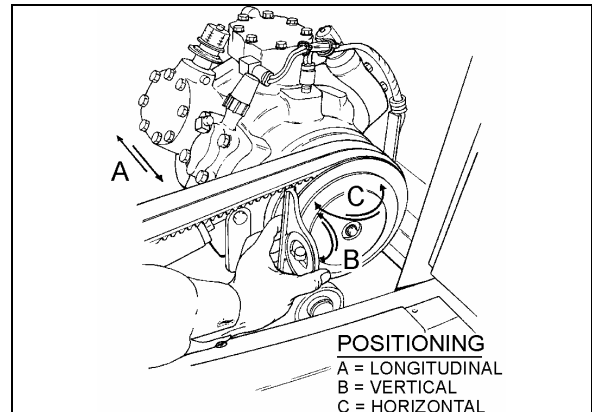

FIGURE 20: COMPRESSOR ALIGNMENT
1. Rest an extremity of a straight edge of approximately 46 inches (117 cm) against the upper part of the outer face of crankshaft pulley, positioning the other end close to the compressor clutch pulley (Figs. 20 & 21).
Rest a short "angle and level indicator" on the outer side face of the crankshaft pulley, adjust the level indicator inclination at 0° and check if the compressor pulley is at same angle (Figs. 20 & 21). If it is not the same, shim under the appropriate pillow block in order to obtain the correct angle.